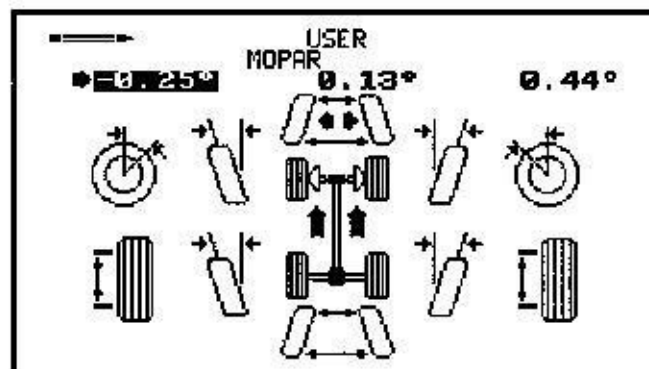

Figure 2-38
- Use arrow keys to select alignment data field (selected field is indicated with an arrow cursor). When desired field is selected, press ENTER. Minimum, preferred and maximum recommended values will be displayed (see Figure 2-38).